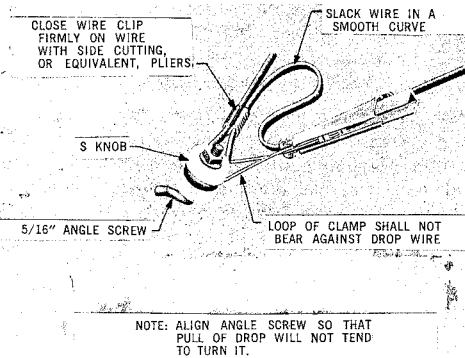

Fig. 1—First Attachment, Angle Screw (Drop Wire Run in Horizontal Direction on Building)
3. TYPICAL FIRST ATTACHMENTS TO BUILDINGS AND STEEL STRUCTURES (Fig. 1 through 9)